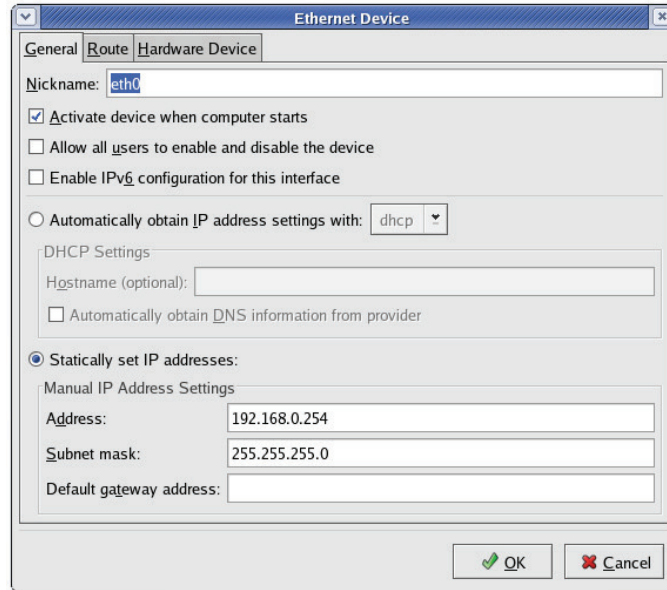

Figure 12. Ethernet Device Window
6. Double-click on the **eth0** device. The Ethernet Device window appears (see figure 12).